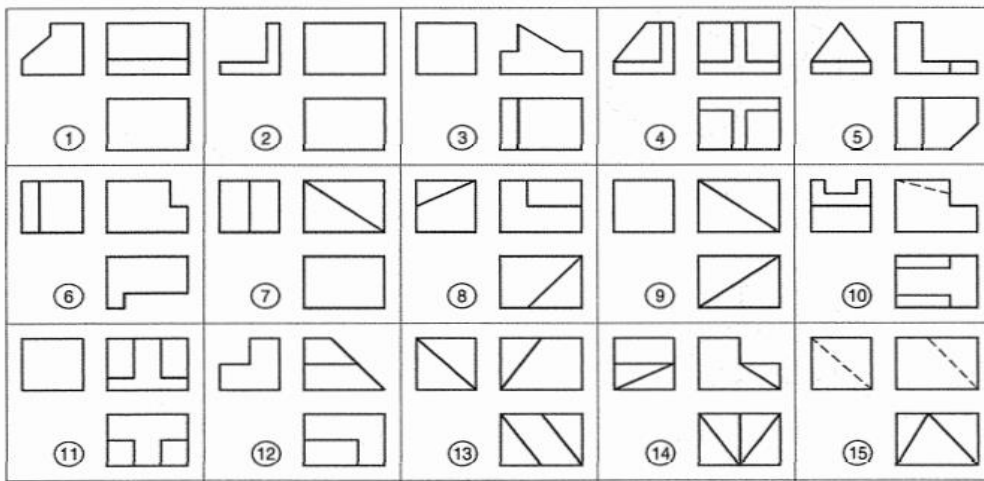

Fig.12.3
3. Draw the isometric view for the given orthographic views by assuming the dimensions for Fig.12.3